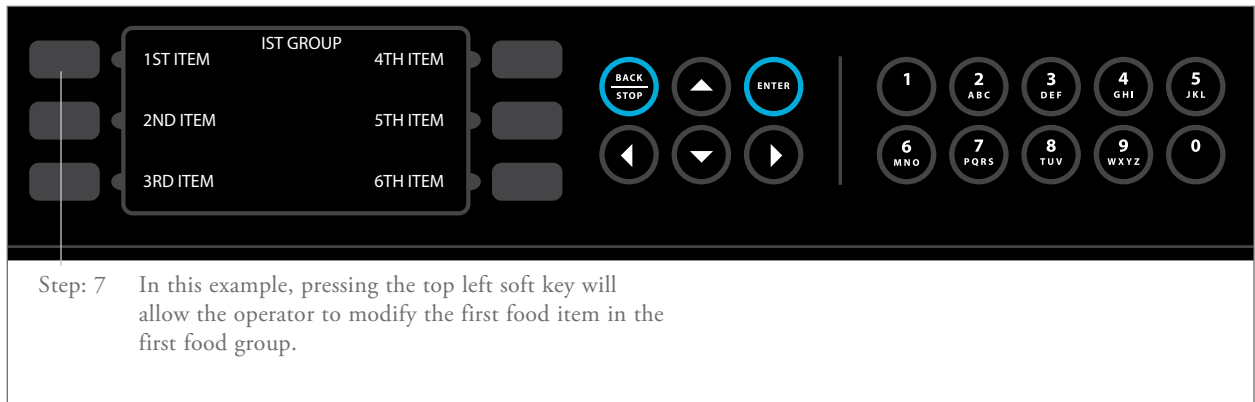

Figure 20: Modifying Recipes – Step 7
7. Select the food item to be modified (Figure 20).